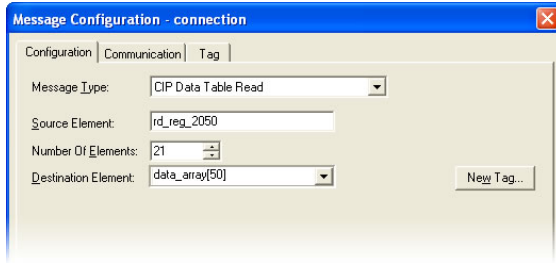

Figure 104: MSG Instruction Configuration
- b) Click the message configuration button ("...") in the MSG instruction. The "Message Configuration" window will open. Refer to Figure 104.